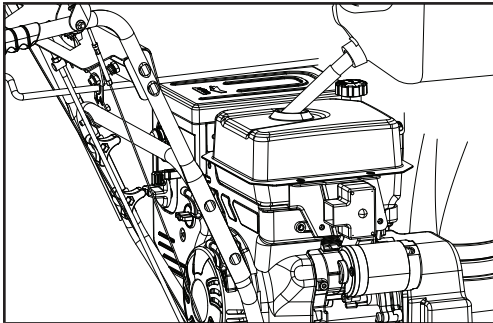

Figure 14
1. Remove the fuel tank cap (Fig. 14).